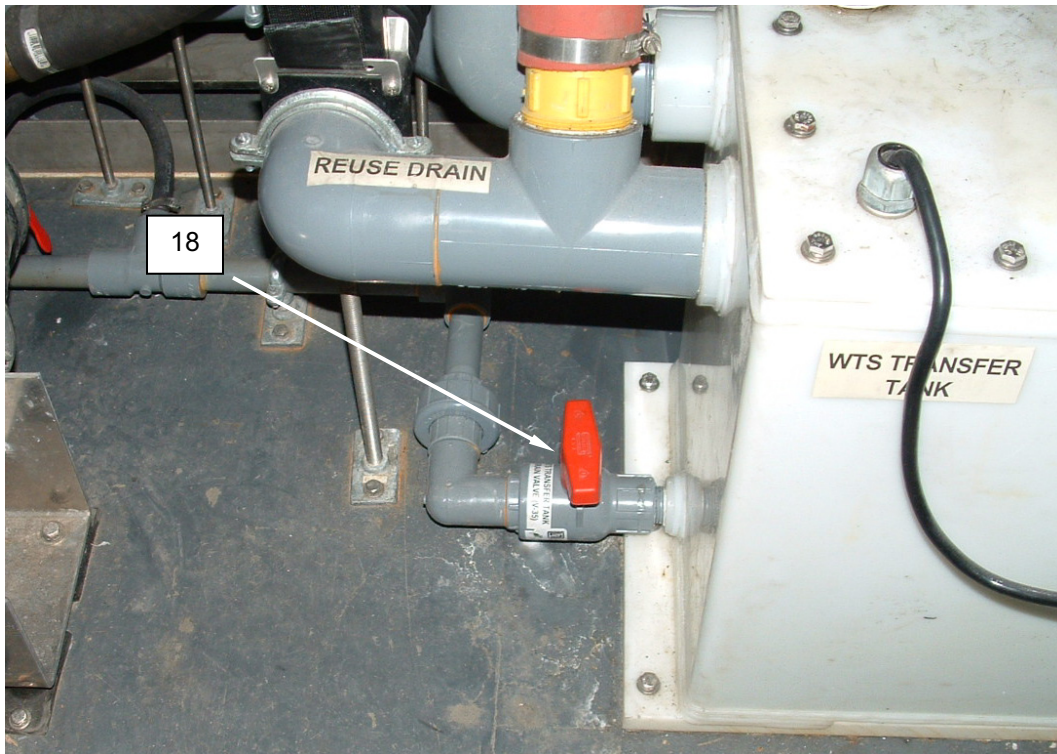

Figure 13. WTS Transfer Tank Drain Valve.
13. Close the WTS transfer tank drain valve (Figure 13, Item 18).